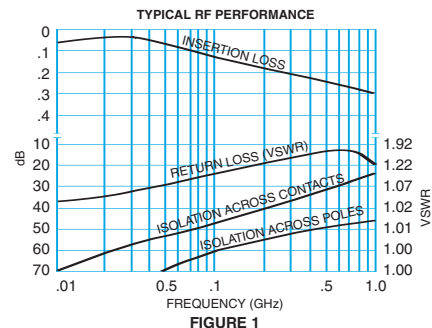

FIGURE 1
By virtue of its inherently low intercontact capacitance and contact circuit losses, the 172 relay is an excellent subminiature RF switch for frequencies well into the UHF spectrum (see Figure 1). Applications include telecommunications, test instruments, mobile communications, attenuators, and automatic test equipment.
Contact Load Ratings (DC) (See Fig. 1 for other DC resistive voltage/current ratings)	Resistive: 1 Amp/28Vdc Inductive: 200 mA/28Vdc (320 mH) Lamp: 100 mA/28Vdc Low Level: 10 to 50 μ A/10 to 50mV